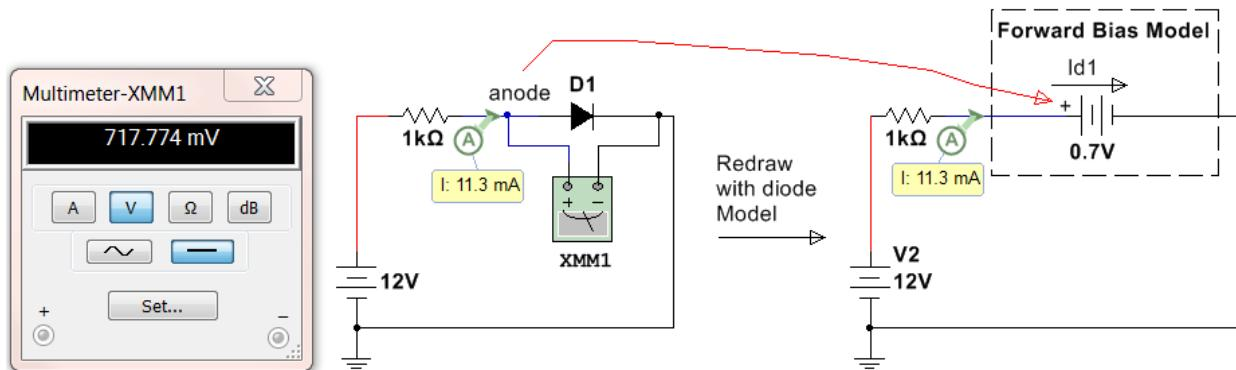

Figure 6.4: Circuit for Example 6.1
Step 2) The circuit on the right side of Figure 6.4 shows the forward bias model replacing the diode. **The node where the anode was connected is connected to the + side of the battery.** 0.7 V is used for the battery voltage because the problem stated it is a silicone diode. Next, calculate the current, I_{D1} .
- $I_{D1} = I_R = \Delta V / R = (12 - 0.7) / 1k\Omega = 11.3 \text{ mA}$ (This is verified in Multisim in Figure 6.4)
Step 2) The circuit on the right side of Figure 6.4 shows the reverse bias model. **Notice the + side of the Multimeter that is measuring V_{D2} is on the same node as the anode was connected.** To solve for V_{D2} there are two possible methods.